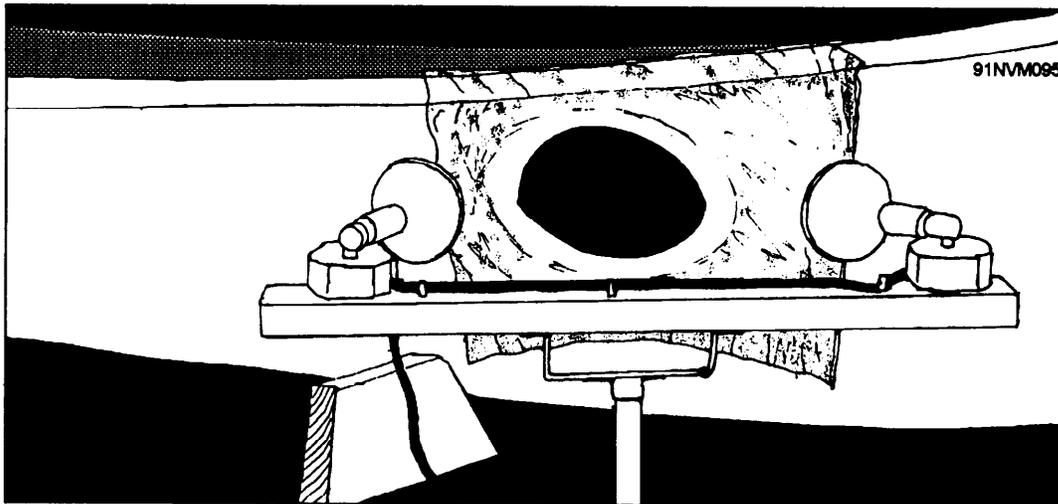

Figure 4-15.—Heat lamps in position to speed the cure.
**CURING.**—The patch should remain undisturbed at least overnight. Heat lamps may be used to speed the cure (fig. 4-15); but in using, you should not overheat the patched area as the cure reaction may “run away,” causing frothing, blisters, and porosity. Lamps should be kept at least 1 1/2 feet away. You should wait a couple of hours to permit the resin to set at room temperature and then give it a final “kick” with heat.